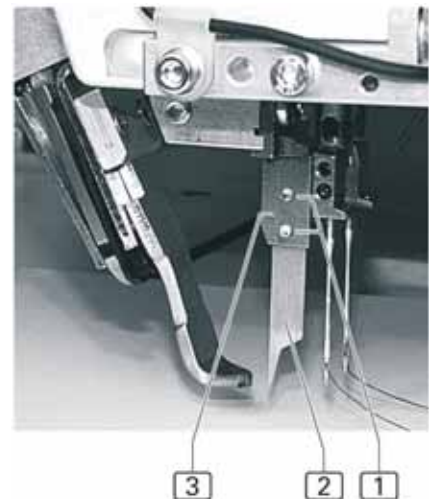

fig. 12
1. **fig. 12:** Loosen both screws [1].